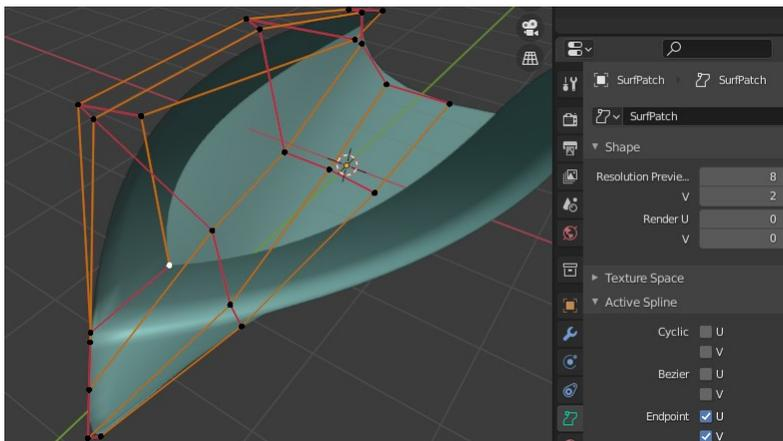

Figure 3-9 Boat shape using Nurbs Surface
2. It will be easier to construct a shape for half the hull (you will add a mirror modifier) if you make the surface reach right to the outer control points. Open the Object Data Properties tab (green surface icon near the bottom of Figure 3-9) and under Active Spline tick the Endpoint U and V options.
You will find it easier to make a streamlined shape using only the sixteen control points of the starting nurbs surface but in figure 3-9 you can see that, after forming the basic shape, I added some more points by extruding the edge twice in the V direction (the pink lines running across the boat) in order to flare the gunwale slightly and wrap the surface over to form side-decks. Leave the stern open, you will fill it after the surface has been converted to a mesh.